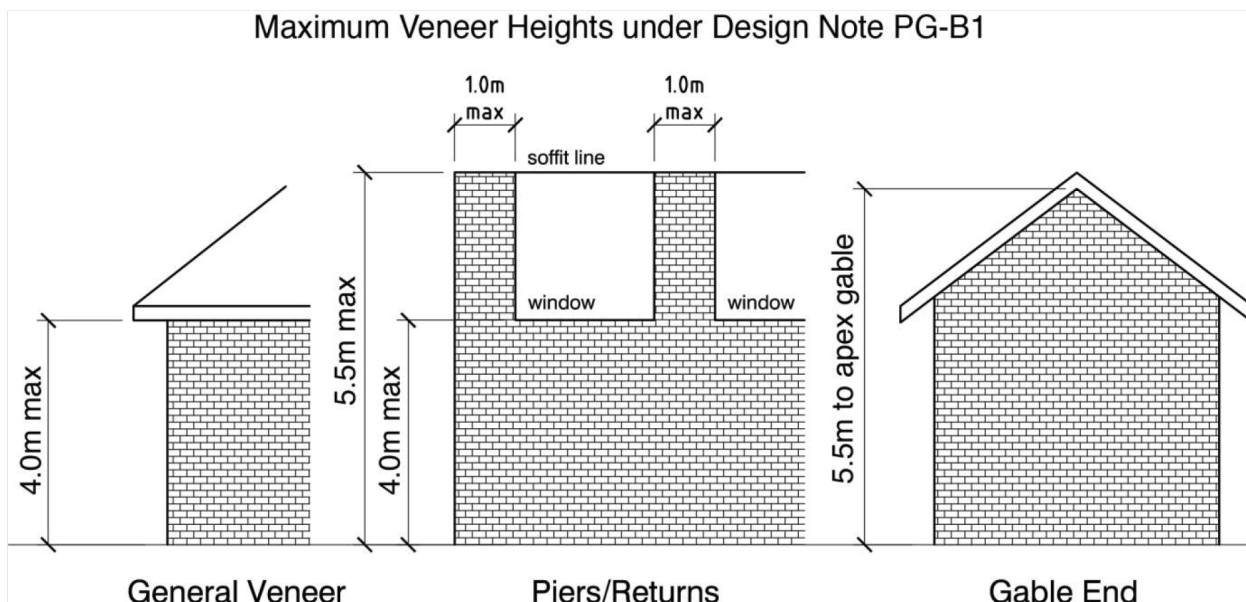

Figure 1 – Maximum veneer heights for single storey, stack-bonded construction
- Maximum veneer height of 4m for straight vertical panels and 5.5m to the apex of a gable or a pier as defined in this document (Refer to figure 1 in PG-B1).
- For further design limitations, see design note PG-B1, Refer to figure 1 in PG-B1